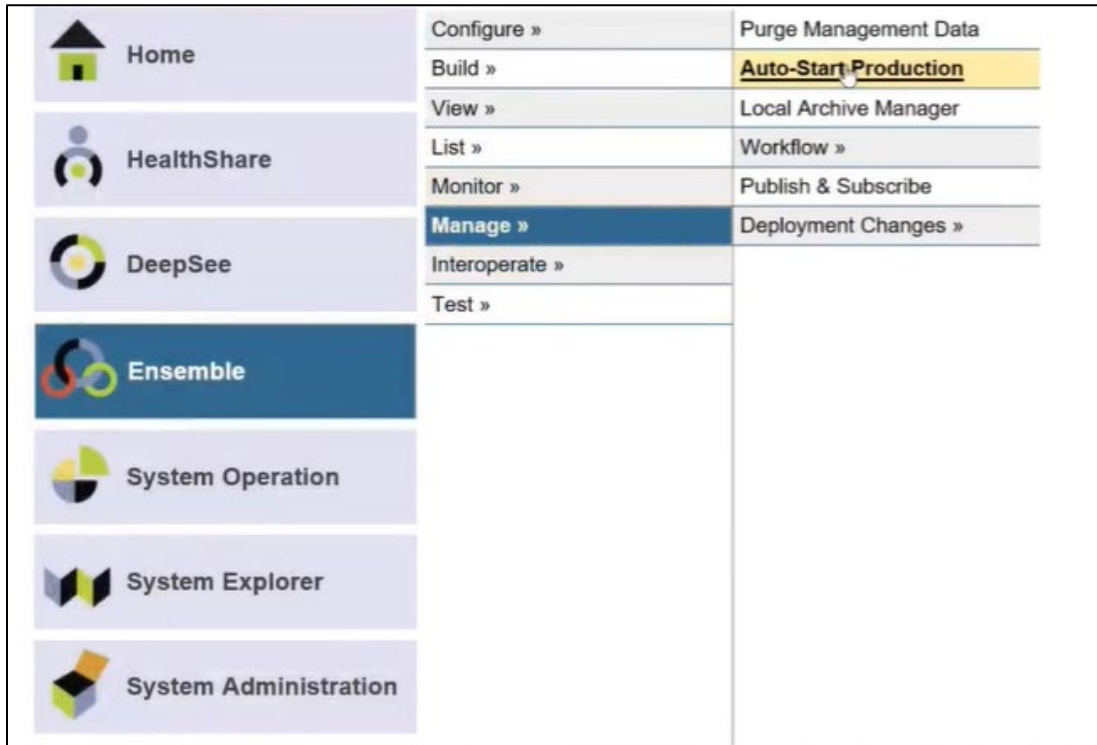

Figure 8-7: Management Portal
1. From the **Management Portal**, click on **Ensemble** and **Manage**, then **Auto-Start Production** (Figure 8-7).